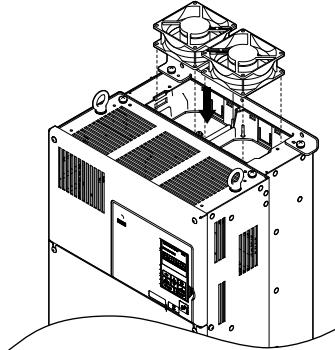

Figure 7.16 Install the Cooling Fan: 4A0088 and 4A0103
1. Install the replacement fan into the drive. Align the pins as shown in Figure 7.16.